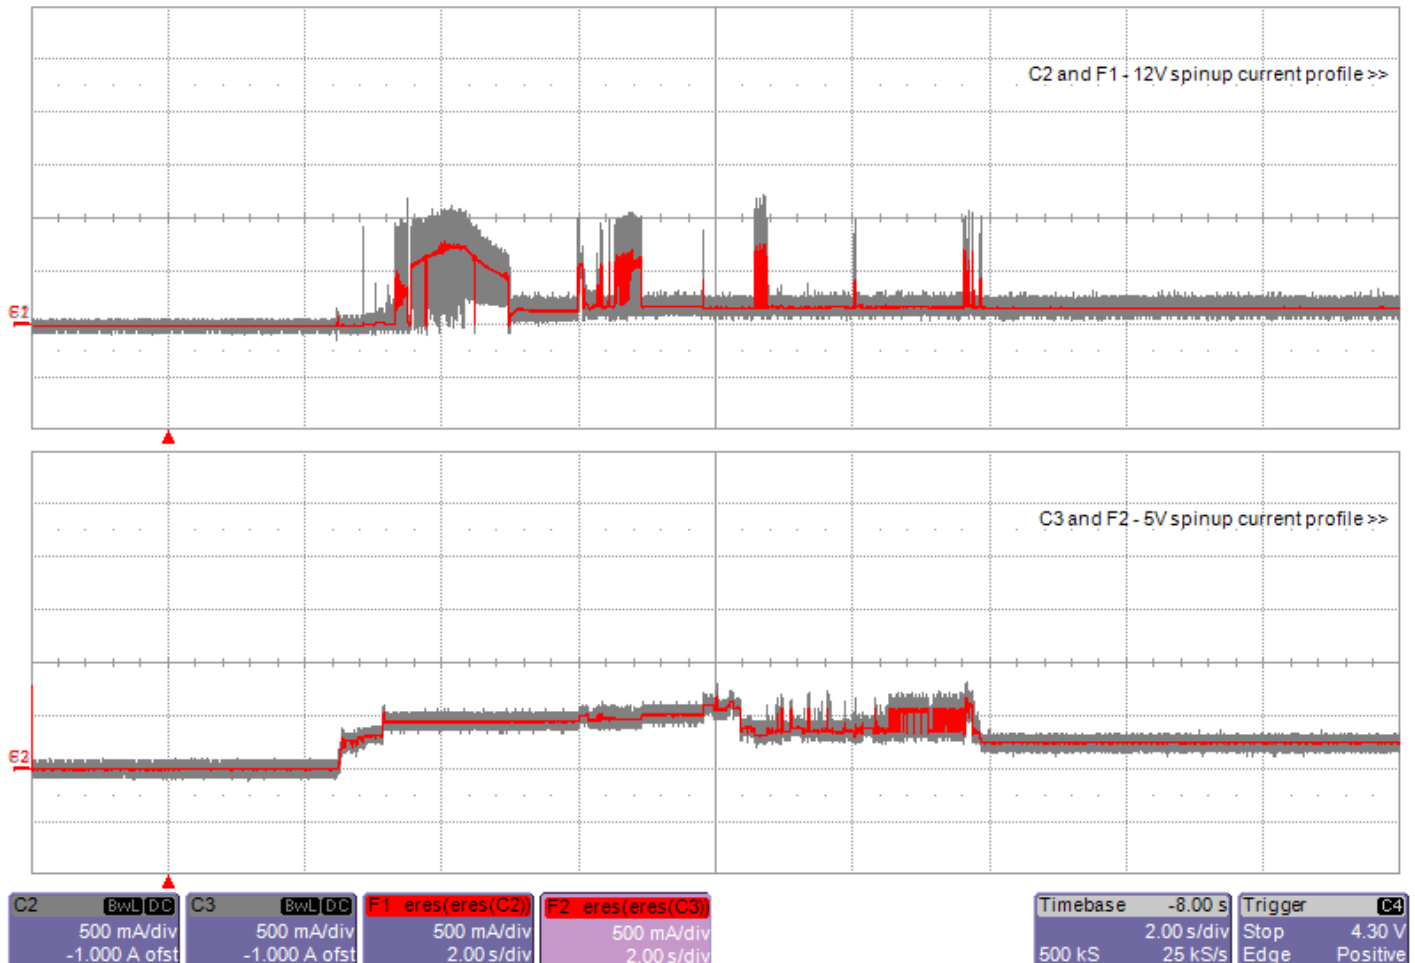

Figure 1. Current profiles for 600GB models
- [3] See +12V current profile in Figure 1 (for 600GB models).